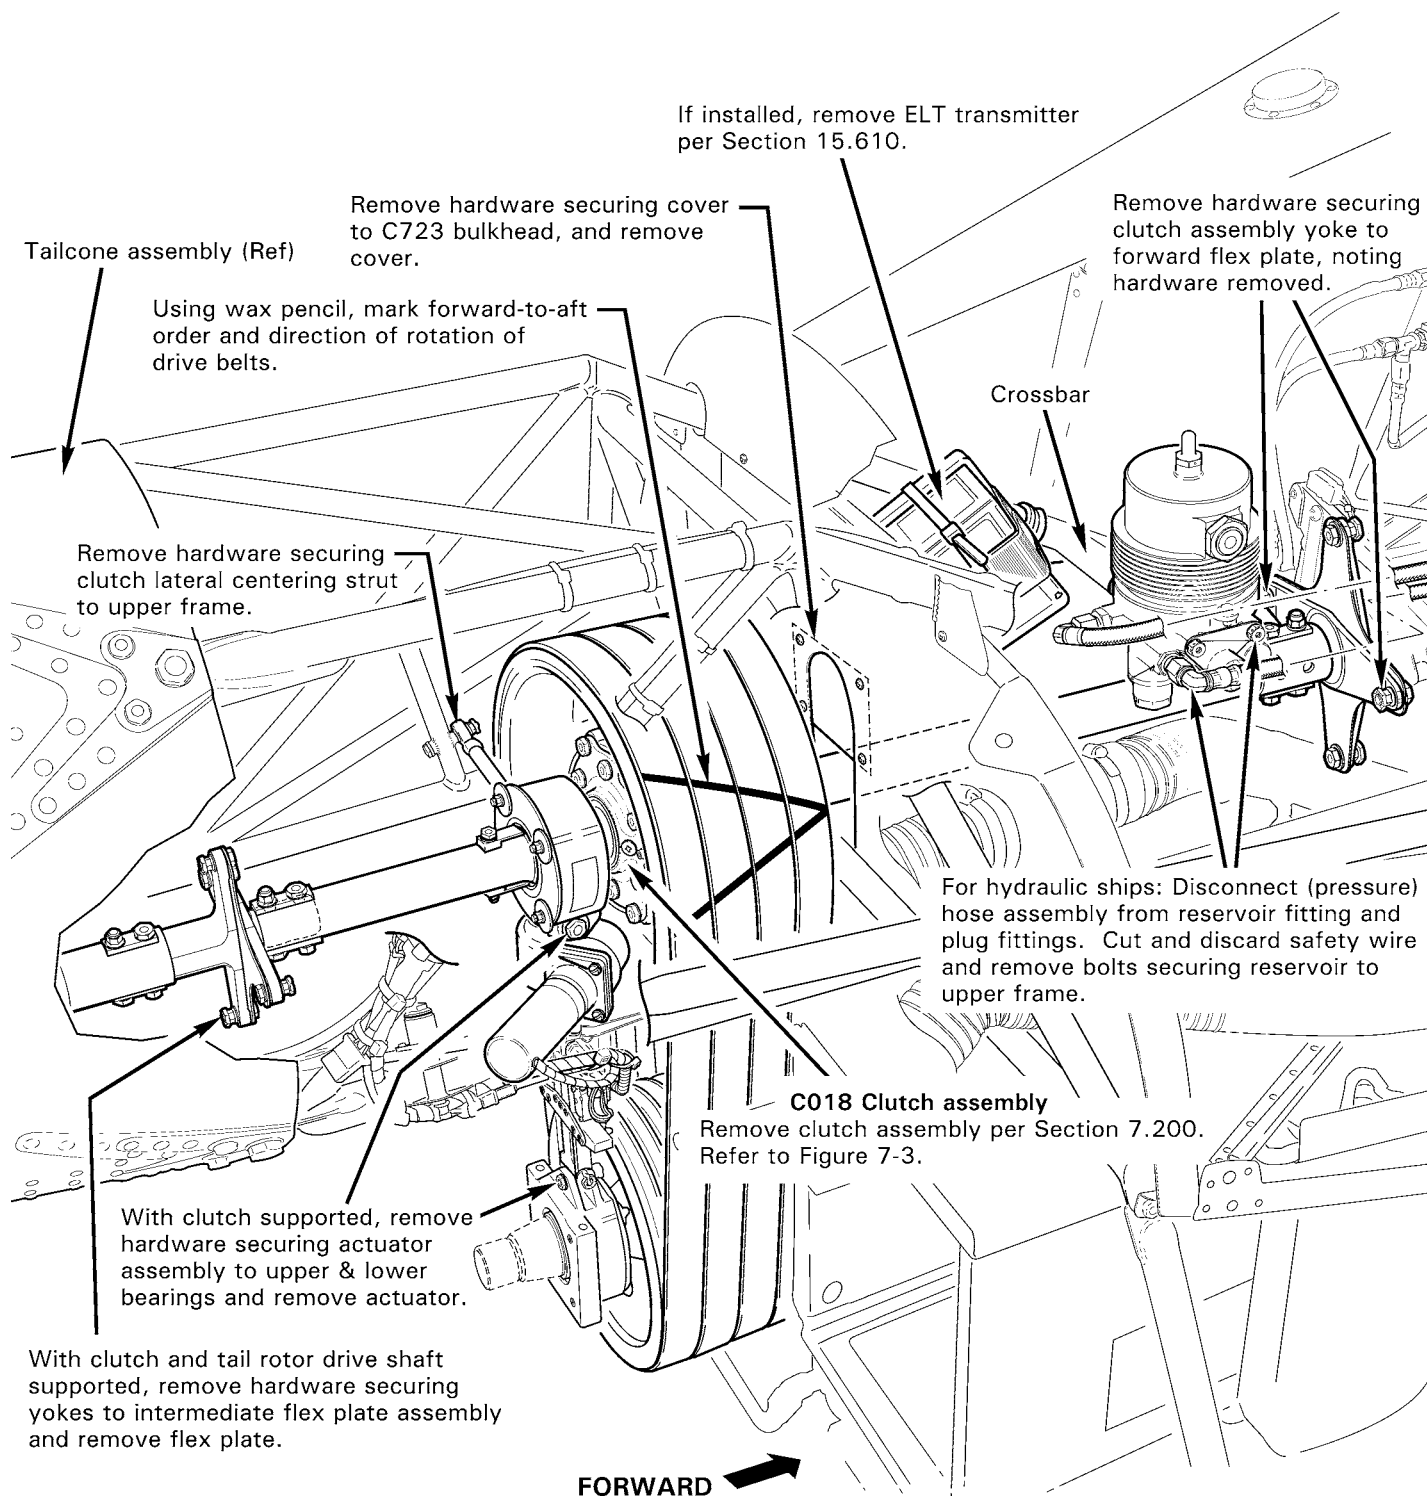

FIGURE 7-2C CLUTCH ASSEMBLY REMOVAL
4. Refer to Figure 7-2C. Remove hardware securing C018 clutch assembly and D224 tail rotor drive shaft assembly yokes to A947-2 (intermediate) flex plate assembly, noting locations of hardware removed. Remove plate assembly. Support drive shaft using a foam block, or equivalent, while drive shaft is disconnected from drive train.
3. Refer to Figures 7-2C and 7-3. Have a second person support the hydraulic reservoir, if installed, and prepared to support the forward end of the clutch shaft. Carefully maneuver clutch forward yoke forward through C723 bulkhead. Move clutch forward (at an angle), over top of upper frame crossbar, until sheave and aft yoke are clear of the tailcone. Move sheave and aft yoke up then aft, until forward yoke is aft of crossbar. Move clutch forward into mounting position.
4. Refer to Figure 7-2C. Observe markings and install drive belts in proper forward-to-aft order and direction of rotation (as removed). Support clutch assembly by installing ty-raps around forward and aft yokes, and securing ty-raps to upper frame.